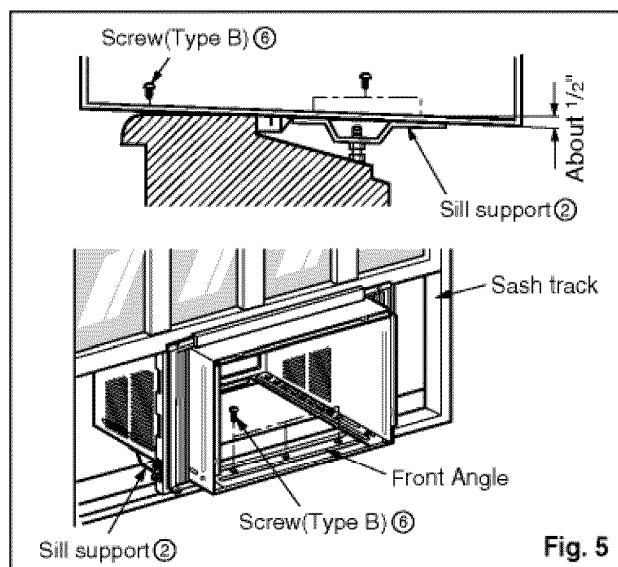

Fig. 5
6. The cabinet should be installed with a very slight tilt(about $\frac{1}{2}$ ") downward toward the outside (See Fig. 5).